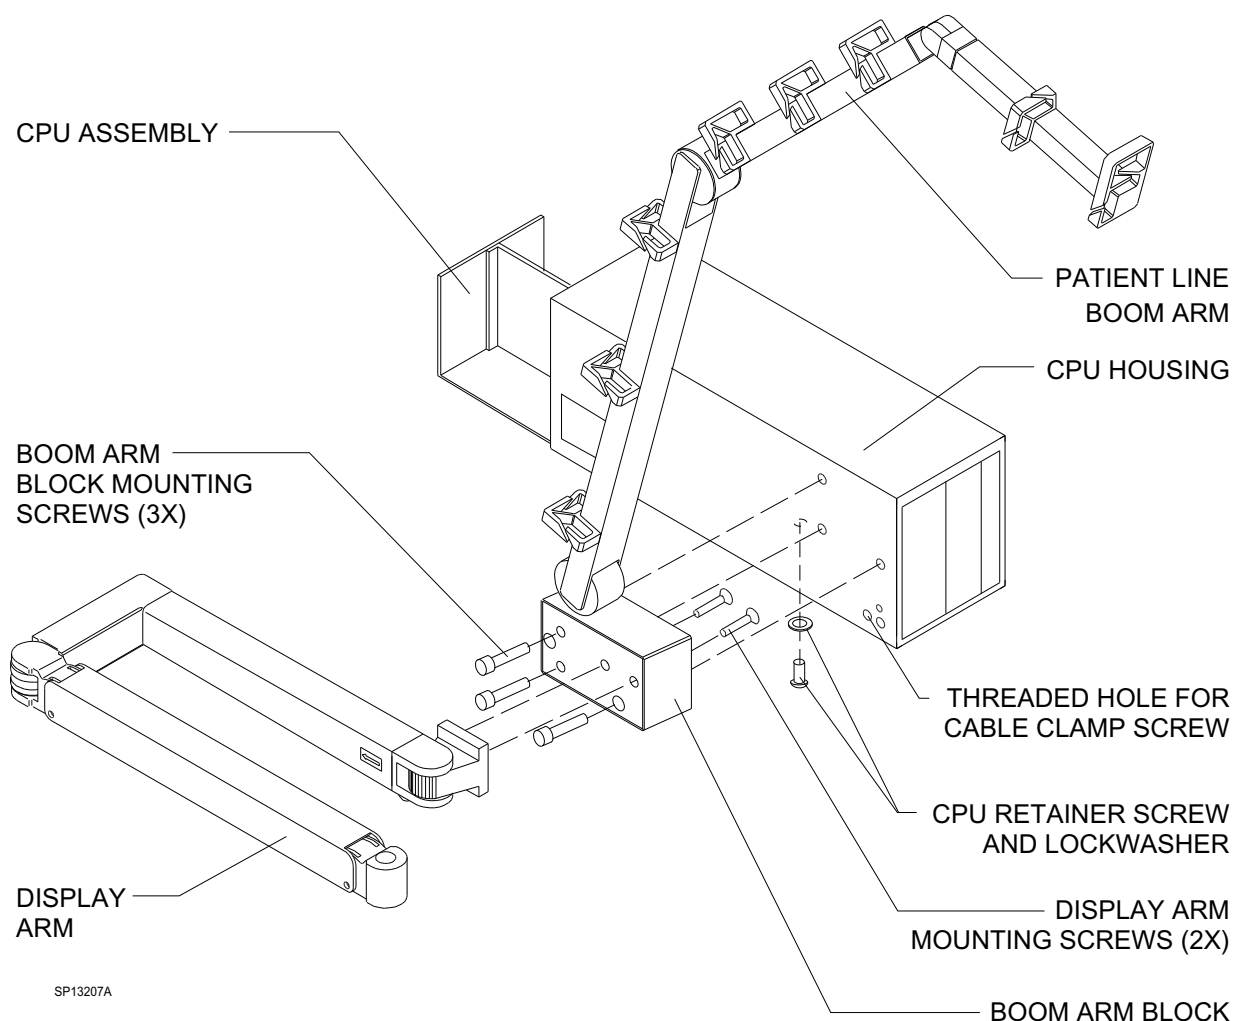

Figure 7A: DISPLAY ARM INSTALLATION ON OUTBOARD ORDM WITH OPTIONAL PATIENT LINE BOOM ARM
- 26A. If the display arm was not pre-assembled to the boom arm block, attach the display arm to the block with two $\frac{3}{8}$ -24 x 1½ in. socket head cap screws. See Figure 7A.
For installations with a patient line boom arm, install the cable clamp screw in the threaded hole in the CPU housing ref. Figure 7A).